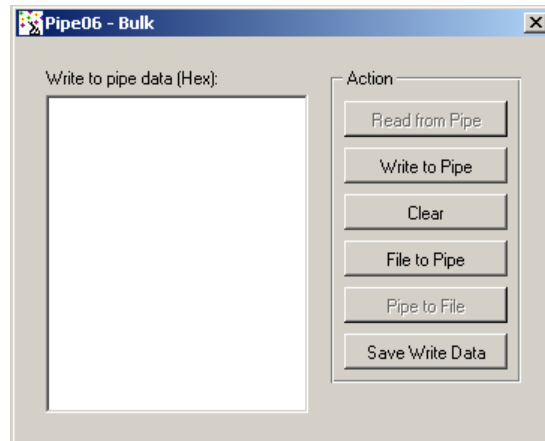

Figure 5.7: Write to Pipe
- v. For an output pipe (moves data from host to device), click **Write to Pipe**. A new dialog box will appear (see Figure 5.7), asking you to enter the data to write. The DriverWizard log will contain the result of the operation.